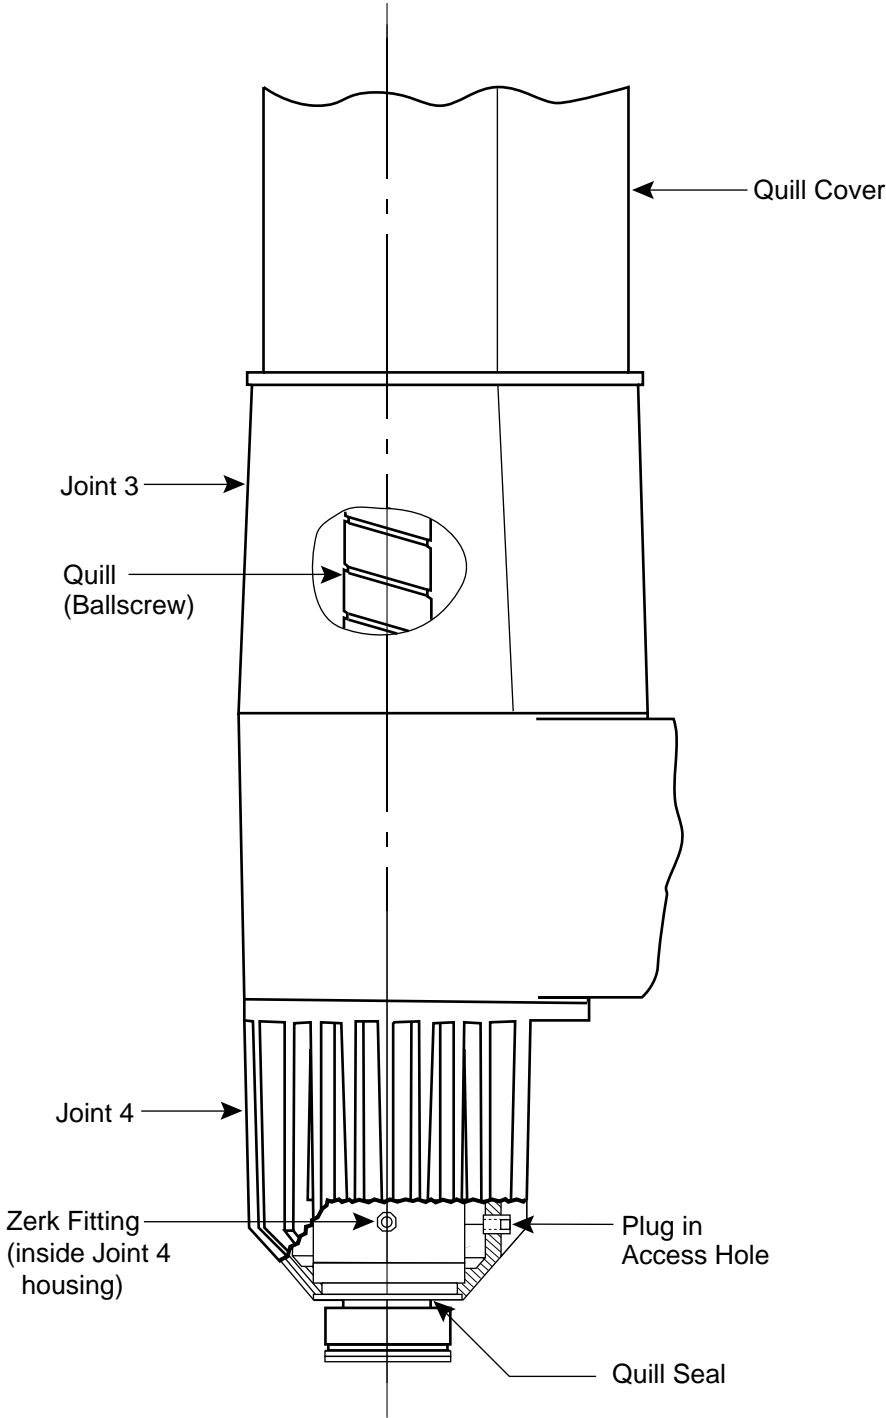

Figure 5-3. Lubrication of the Lower Quill Shaft of the AdeptThree-MV Robot
3. Using a 5/16-inch Allen wrench, remove the grease fitting access plug from the side of the Joint 4 housing. See Figure 5-3.